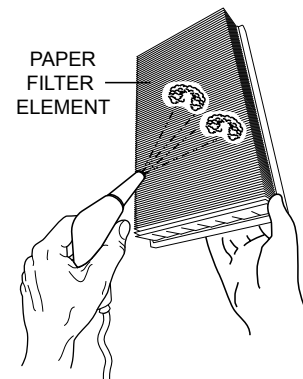

Figure 24. Cleaning Inner Paper Filter
3. Blow dry with compressed air (0.69 Mpa {7 kgf.cm², 99.4 PSI} maximum) against the side of the paper filter element (Figure 24) along the pleats. Then blow dry against outside along the pleats, then against inside again.